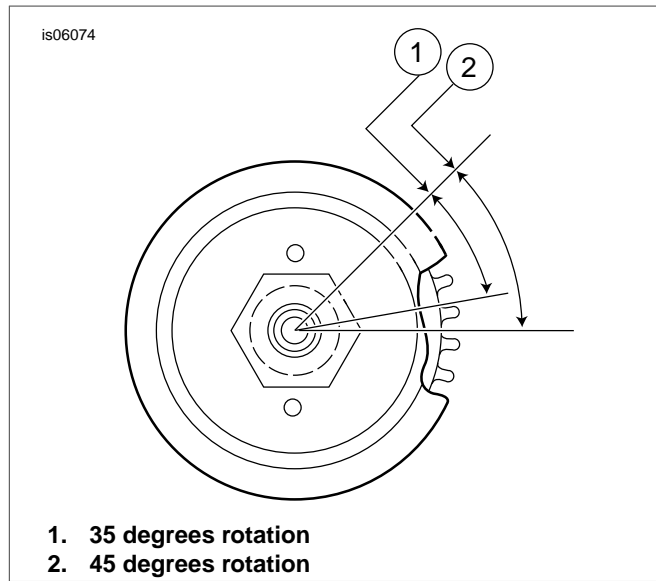

Figure 3. Tighten Transmission Sprocket Nut
8. See Figure 3. Scribe a straight line on the transmission sprocket nut continuing the line over onto the transmission sprocket as shown in Figure 3. Tighten the sprocket nut an additional 35 to 45 degrees.